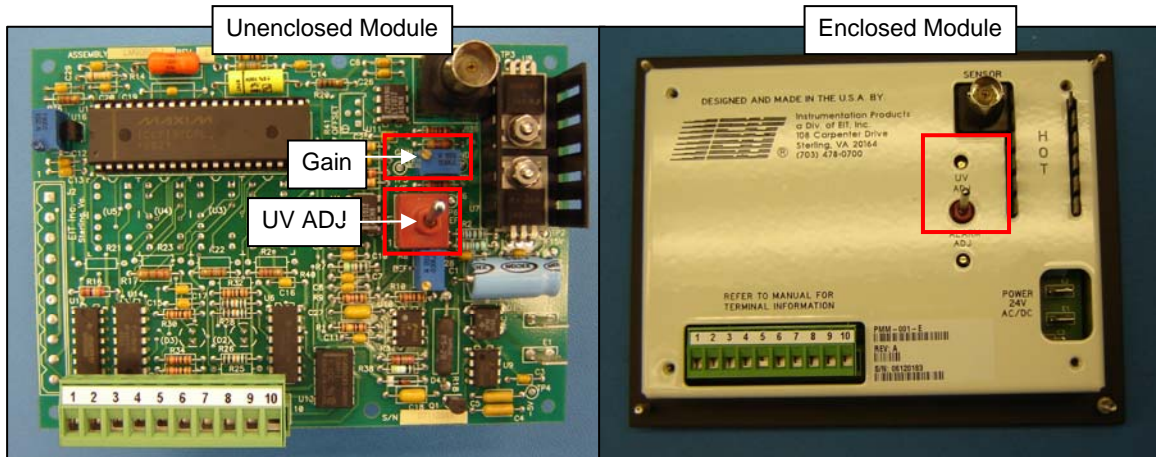

Figure 34: Online UV Intensity Display Module™ Intensity Adjustment
- Place the display selector switch in the up (UV ADJ) position. (See Figure 34)